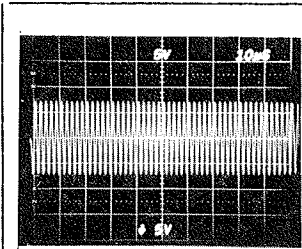

FIGURE 4-5
- c. Photos of output signals Fig. 4-5 through 4-12.
Table 1-1 and waveforms as depicted in Fig. 4-5 through 4-12, Page 4-19. Observation of the waveforms and measured signals may reveal that a problem exists or that calibration is required.